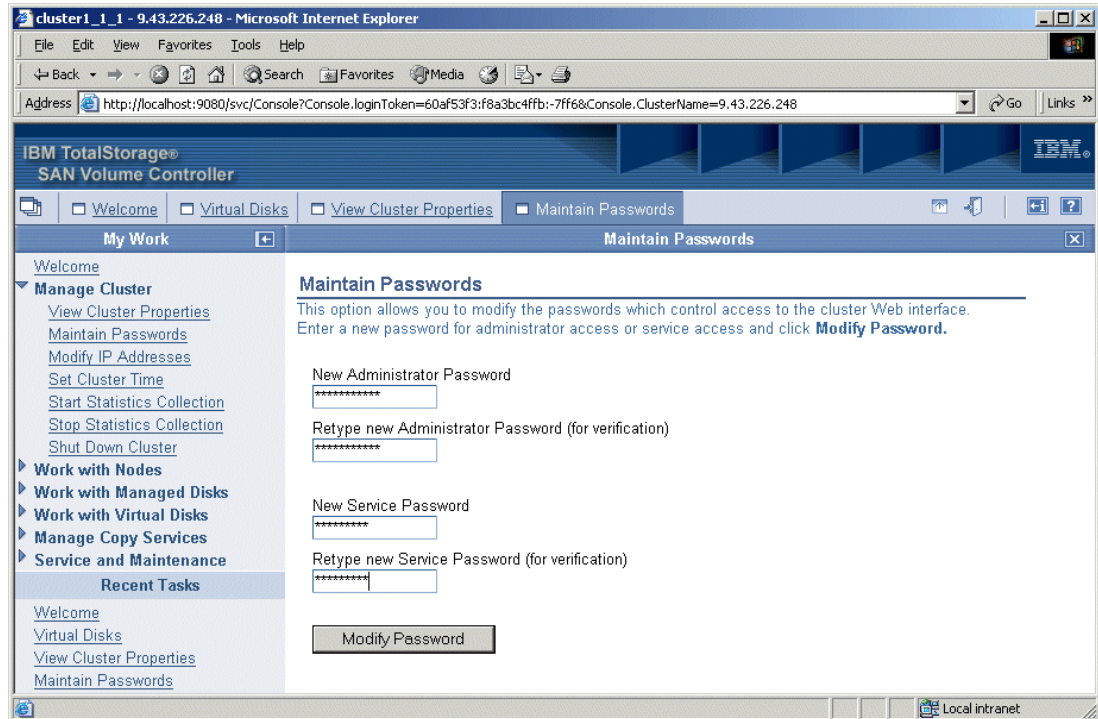

Figure 9-7 Maintain Passwords panel
3. The Maintain Passwords panel (Figure 9-7) opens. Enter the new passwords for the administrator account, the service account, or both. Click **Modify Password**.